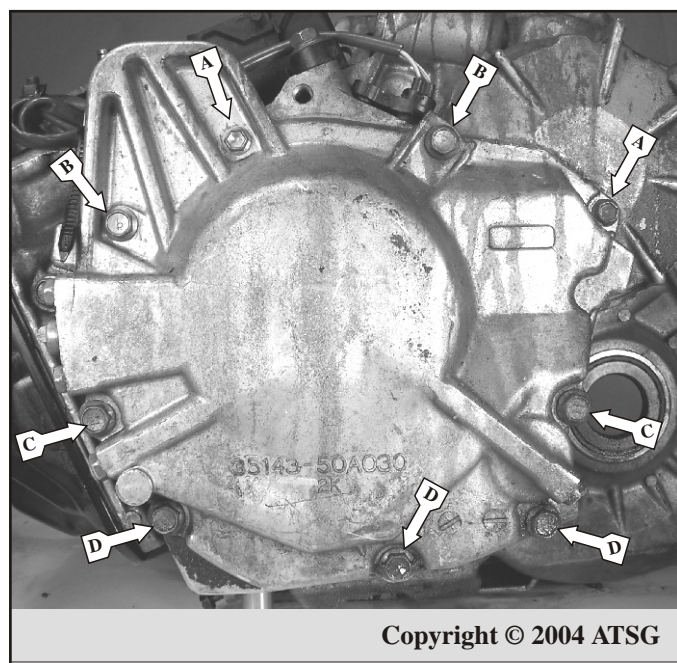

Figure 250
- 178. Assemble the rear cover onto the case half and install and torque the bolts into the correct locations using the chart listed below. See Figure 250.